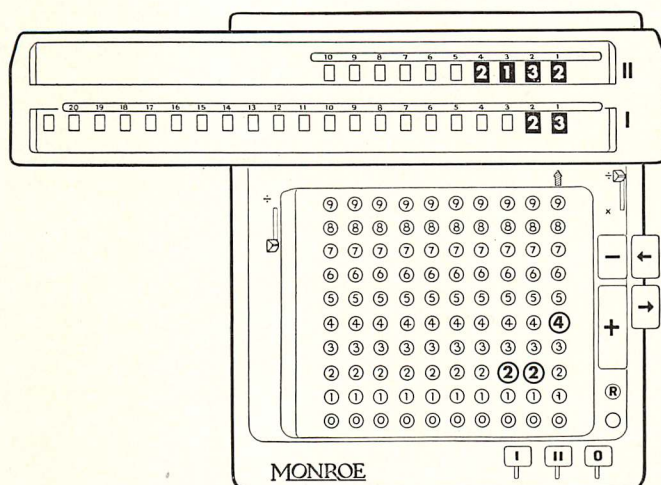

Figure 8
*Step 5*—Continue this operation, shifting the carriage and depressing minus and plus bars. At the completion of the problem (Figure 8), the quotient, 2132, appears in the upper dials and the remainder, 23, is in the lower dials.